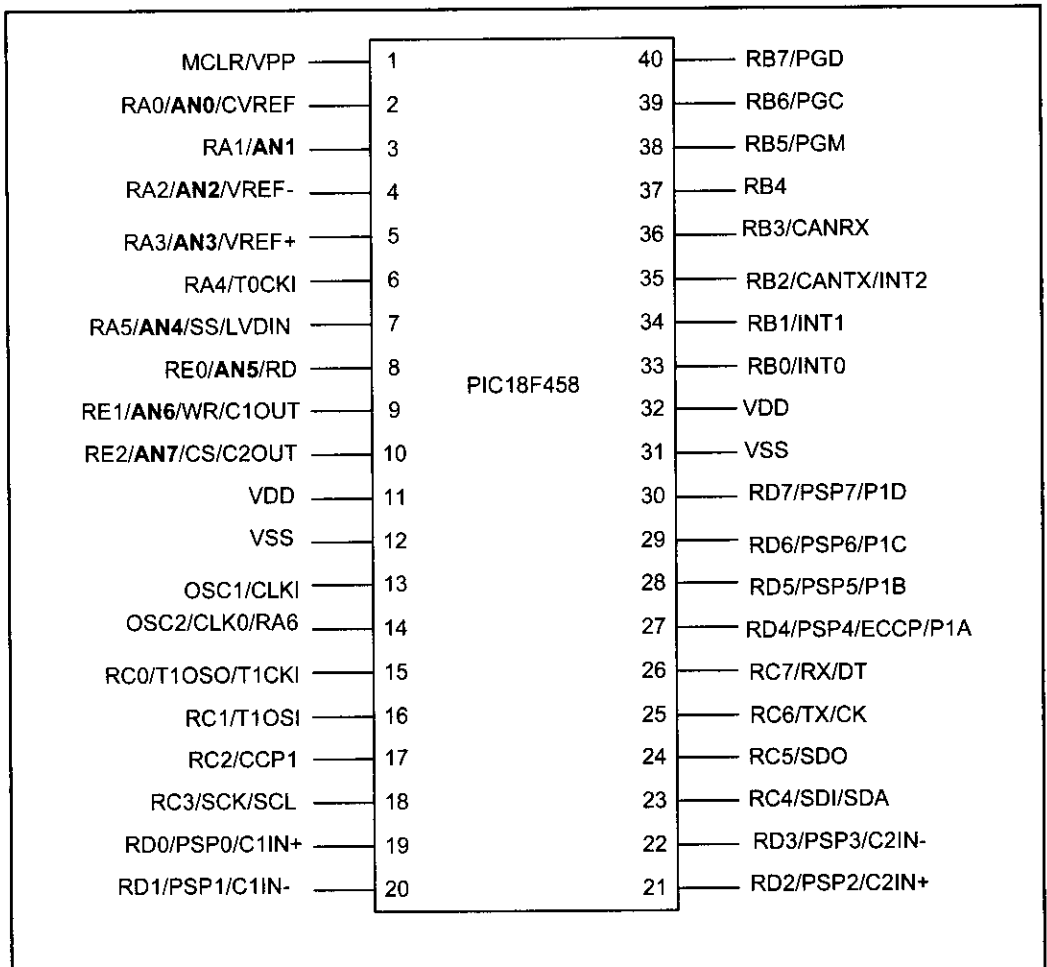

Figure 13-5A: PIC18F458 Pins with ADC Channels Shown in Bold
- (b) It can have 5 to 15 channels of analog input channels, depending on the family member. In PIC18452/458, pins RA0–RA7 of PORTA are used for the 8 analog channels. See Figures 13-5A and 13-5B.